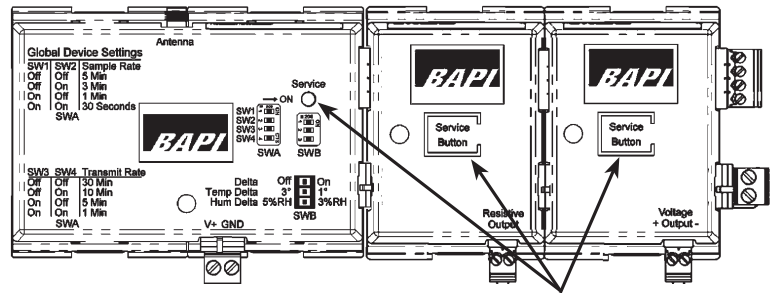

Fig. 1: Receiver and Output Modules Service Buttons
1. Select the output module for the desired sensor variable and range and connect it to the wireless receiver (Fig 1).